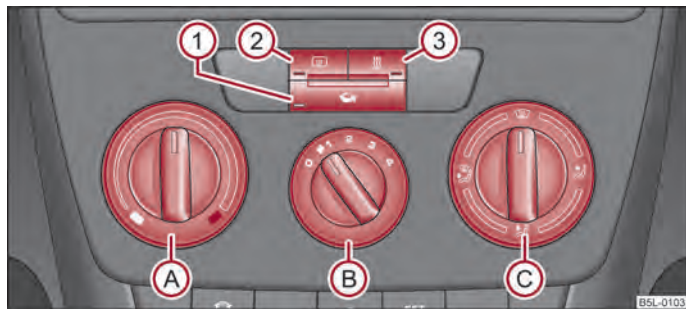

Fig. 90 Heating: Control elements
- Turn the control dial (A) ⇒ fig. 90 to the right in order to increase the temperature.
- Turn the control dial (A) to the left in order to decrease the temperature.
- Controls Ⓐ, Ⓑ, Ⓒ and the button ① ⇒ fig. 90.
- Press the button - the warning light lights up in the button ⇒ fig. 90.
The recirculated air mode is switched off automatically if the air distribution control Ⓒ is in position ⇒ fig. 90. You can also switch recirculated air mode on again from this setting by repeatedly pressing pushbutton .